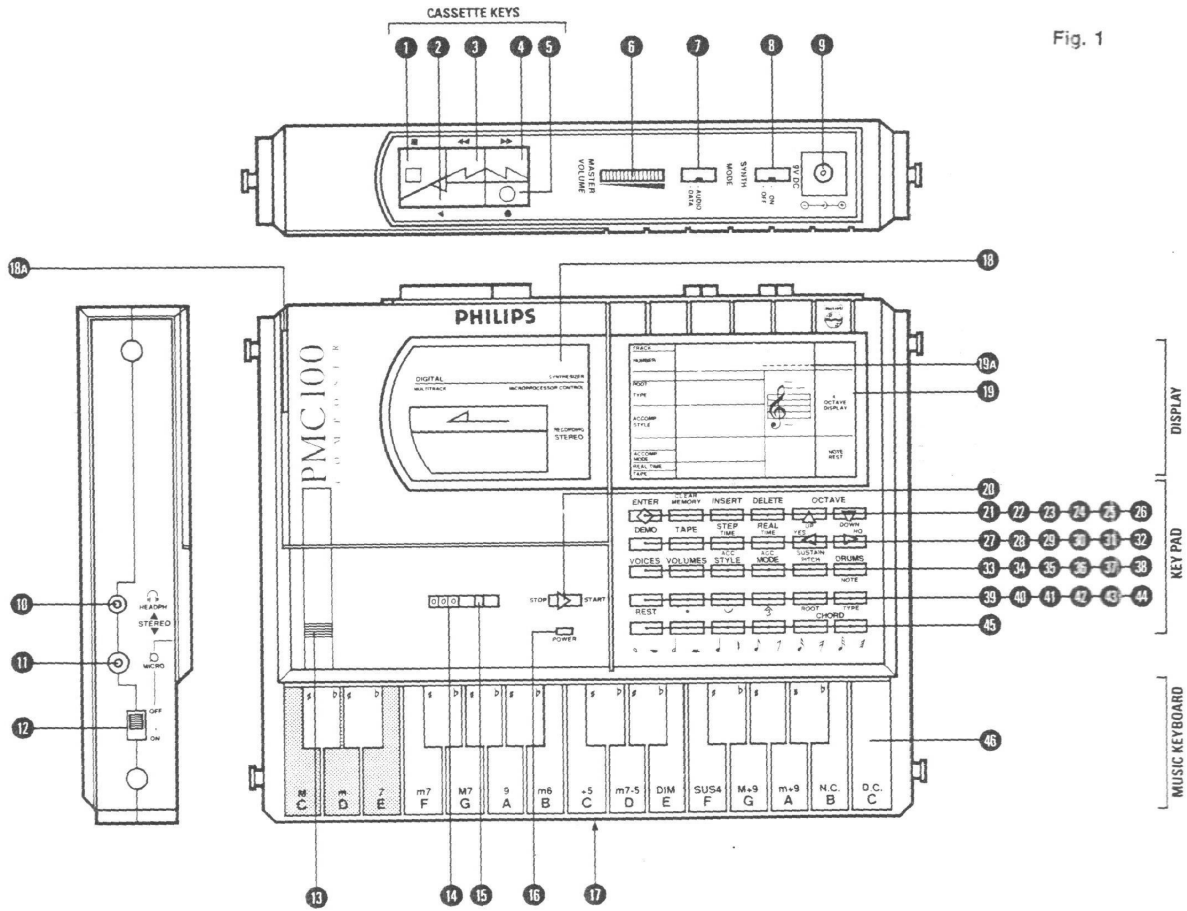

Fig. 1
The test procedure is started by keeping both the bottom left and bottom right keys on the control keypad pressed (pos. 45 in Fig 1: NOTE/REST VALUE KEYS) and then switching on the synthesizer (pos. 8 in Fig 1: SYNTH ON/OFF).
Any running test is stopped when the START/STOP key (pos. 20 in Fig 1) is pressed, and the next test is started immediately.
1. First, a RAM test is performed. This takes about 1s. If the RAM test is unsuccessful, the message "Err" is displayed in the numeric segment area (pos. 19A in Fig 1).
3. All the LCD segments are switched off, and then each segment is sequentially switched on and off, one at a time. The time for this test is approx. 41s. If the START/STOP key (pos. 20 Fig 1) is pressed this test sequence is stopped.
3. The number "56" is displayed on the LCD (pos 19A in Fig 1). This indicates the number of keys that remain to be pressed to complete the keyboard test. Each time a key is pressed, the number is decremented by 1. The keys do not have to be pressed in a specific order. The only rule is that the START/STOP key is pressed **last**. Pressing the START/STOP key at any time during the keyboard test terminates the keyboard test, and continues with the sound test.
10. A tape out signal is generated. This is a 2KHz square wave. The AUDIO/DATA switch (pos. 7 in Fig 1) must be in the DATA position. The signal is not sent to the headphones output. Any key should be pressed.
- Press the "TAPE" key (pos. 28). The "LOAD" segment starts blinking, and the "SAVE" and "VERIFY" segments are switched on.
- Press the "ENTER" key (pos. 21). The "LOAD" segment stops blinking, but remains on, and the "SAVE" and "VERIFY" segments are switched off. The "CONFIRM" segment starts blinking.
- Press the "YES/CURSOR LEFT" key (pos. 31).
- Press the "PLAY" key (pos. 2) on the cassette unit. After a few seconds, a number is displayed on the LCD. The first one or two digit positions are blinking. The last two digits (the number of data blocks on tape) count down to 0. If the message "Err" is displayed on the LCD, the load was not successful.